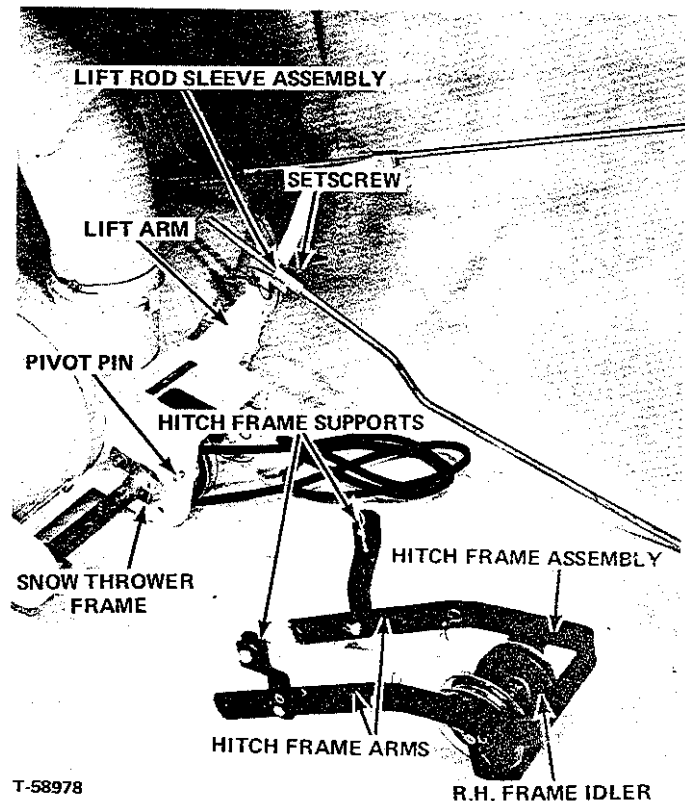

FIGURE 2
4. Place rear end of lift rod in upper hole of lift lever and secure with lock pin. Place pin portion of the lift rod sleeve assembly in the hole in lift arm and secure with lock pin (Figure 2).